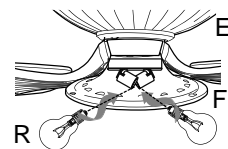

Fig. 7
7. Install two candelabra base 60 watt max. bulbs (R) included. [Fig. 7]
**Important:** When replacing bulbs, allow bulb(s) and glass shade (H) to cool before touching them.